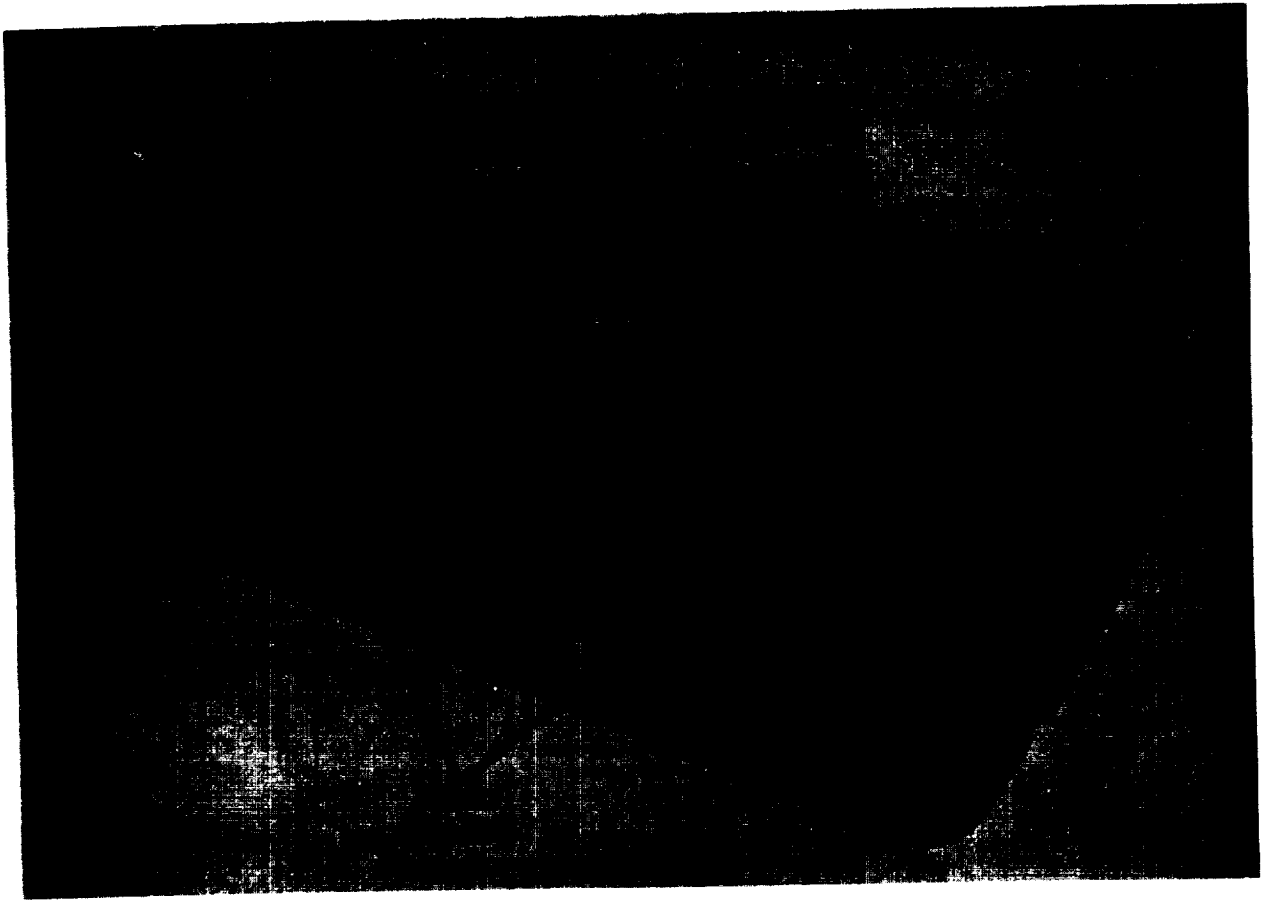

Figure 4-2. Radar chronograph accessories case.
c. *Description of Radar Chronograph Accessories Case.* The accessories for the chronograph are shipped and stored in a specially designed reusable plastic container (fig. 4-2). The two piece case, formed of high impact plastic, provides protection against water and